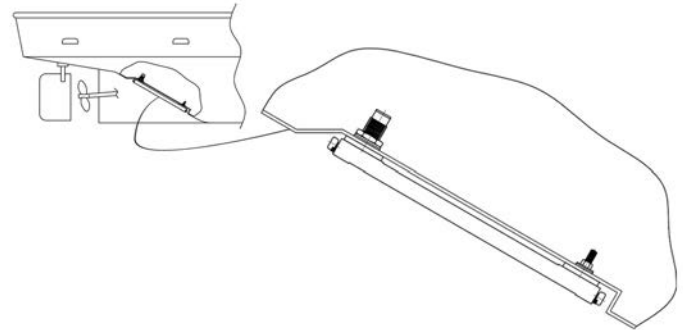

FIG. 9 U-Flow unit with E1 OPTION end mounted zinc anodes mounted on rake of vessel.
- 1.6.3 When installing a multiple-pass unit on an incline, make sure that the nozzles are at the high end to avoid air entrapment. See Figure 9.